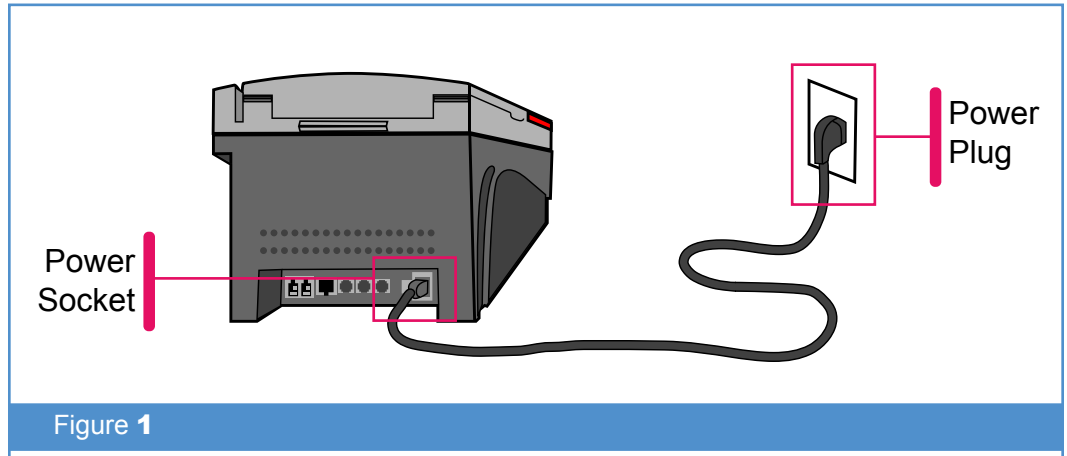

Figure 1
2. Connect the power cable from the AC power to the 3-pin terminal power socket on the back panel of the MPOS. (see Figure 1).